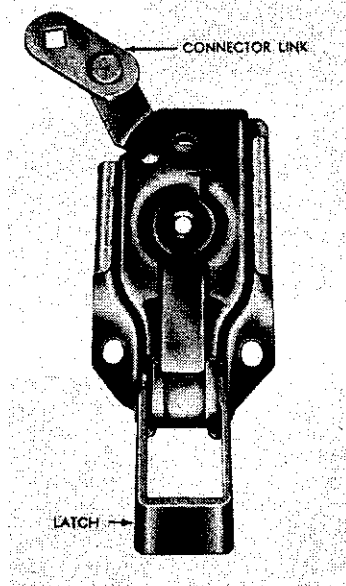

FIG. 28
**CHAMPION AND COMMANDER** The trunk lid lock (latch) assembly (see Fig. 28) is fastened to the trunk lid with three screws and lock washers and is connected to the lock handle shaft with a connector link.